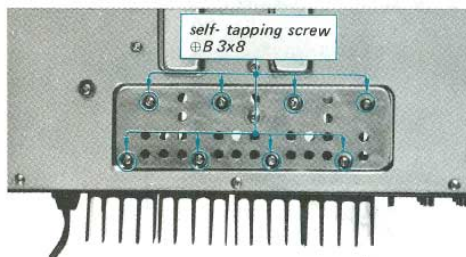

Fig. 2-8 Heat sink removal
3. Remove the four self-tapping screws ($\text{Ø} B 3 \times 8$) securing the pair of heat sinks to the chassis as shown in Fig. 2-8.